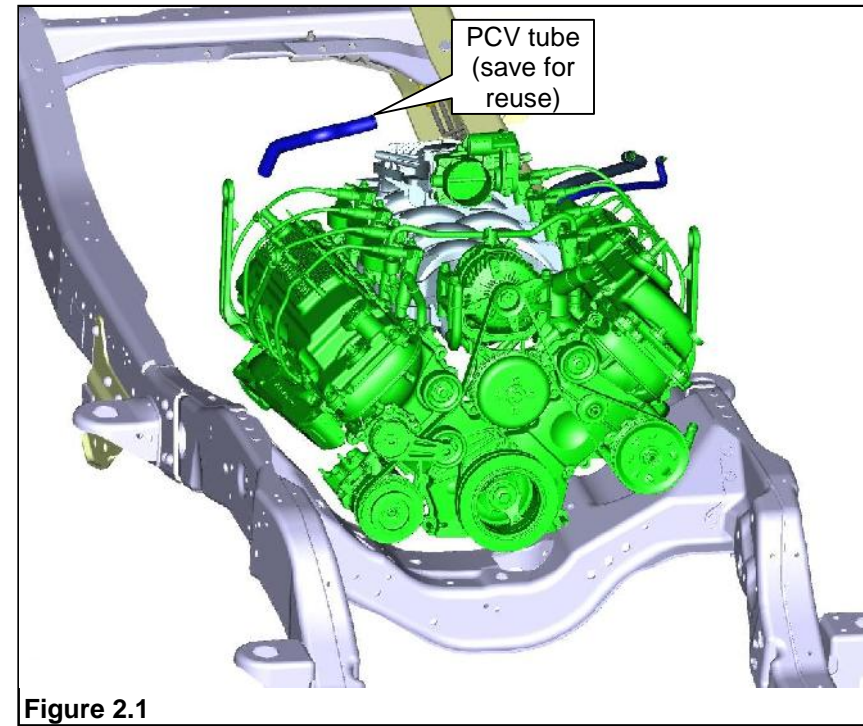

Figure 2.1
1. Disconnect and remove the positive crankcase ventilation (PCV) tube to gain clearance. **Figure 2.1.**